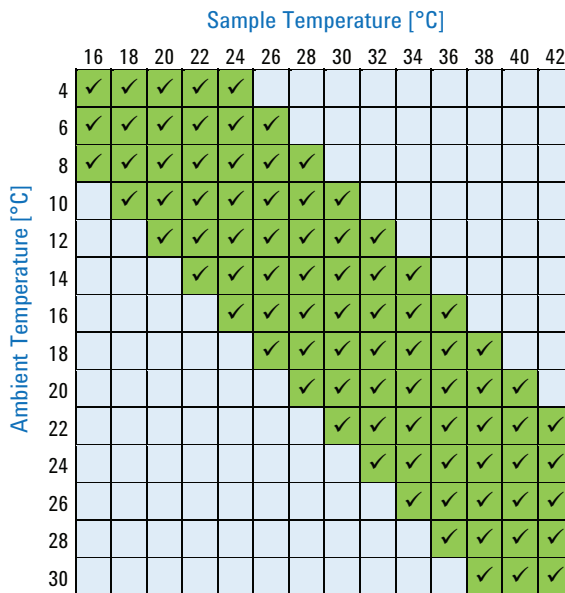

Figure 8 Temperature chart.
Seahorse XF Pro Analyzers have been validated to deliver desired target temperatures in the range of 16 to 42 °C, provided the ambient room temperature is 8 to 20 °C below the target temperature, and in the validated operational room temperature range of 4 to 30 °C. To understand the relationship between the desired sample temperature and required ambient temperature, see the temperature chart in **Figure 8**.
- 2 Ensure the ambient conditions support the desired target temperature (8 to 20 °C above ambient). (See the temperature chart shown in **Figure 8** on page 28.)